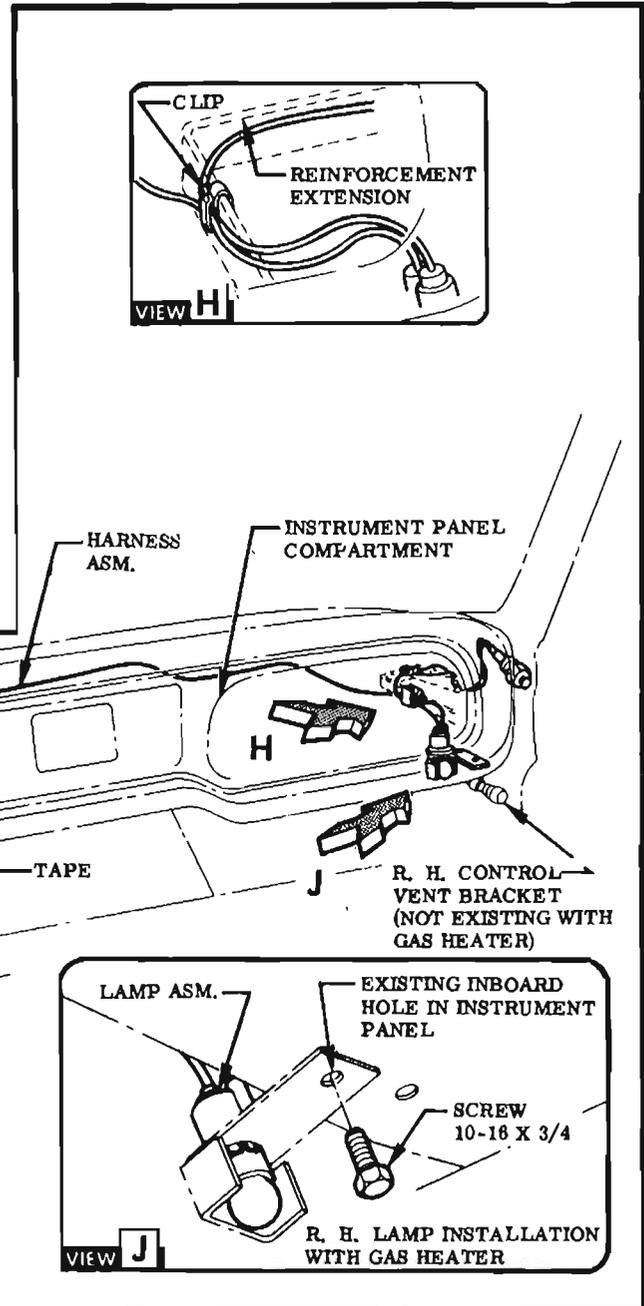

FIG. 7 TRUCK R-10
STEP 2 PLACE L. H. LAMP IN ITS APPROXIMATE INSTALLED POSITION & ROUTE WIRE THRU EXISTING CLIP UNTIL R. H. LAMP IS IN ITS APPROXIMATE INSTALLED POSITION. SEE FIG. 7.
STEP 3 REMOVE EXISTING OUTBOARD SCREW THAT ATTACHES VENT CONTROL KNOB BRACKET. SLIDE LAMP ASM. BRACKET BETWEEN VENT CONTROL KNOB BRACKET & INSTRUMENT PANEL & SECURE WITH PREVIOUSLY REMOVED SCREW. SEE VIEW C (FIG. 4) **NOTE** If Gasoline Heater exists, attach R. H. lamp support to instrument panel thru inboard hole with screw provided. See Fig. 7 & View J.
STEP 6 ATTACH WIRES TO REINFORCEMENT EXTENSION, BOTH SIDES, WITH CLIPS PROVIDED. SEE FIG. 7 & VIEW H.
STEP 7 INSERT FUSE & CLIP INTO RECEPTACLE ON FUSE PANEL MARKED "HEAT BLOW -GL. BOX LP." & PLUG IN CONNECTOR. SEE FIG. 7. **NOTE** If Receptacle is occupied, remove existing wire & connector to Jumper Wire.
STEP 8 LOOP & TAPE EXCESS WIRE. SEE FIG. 7. **NOTE** Remaining parts may be discarded.